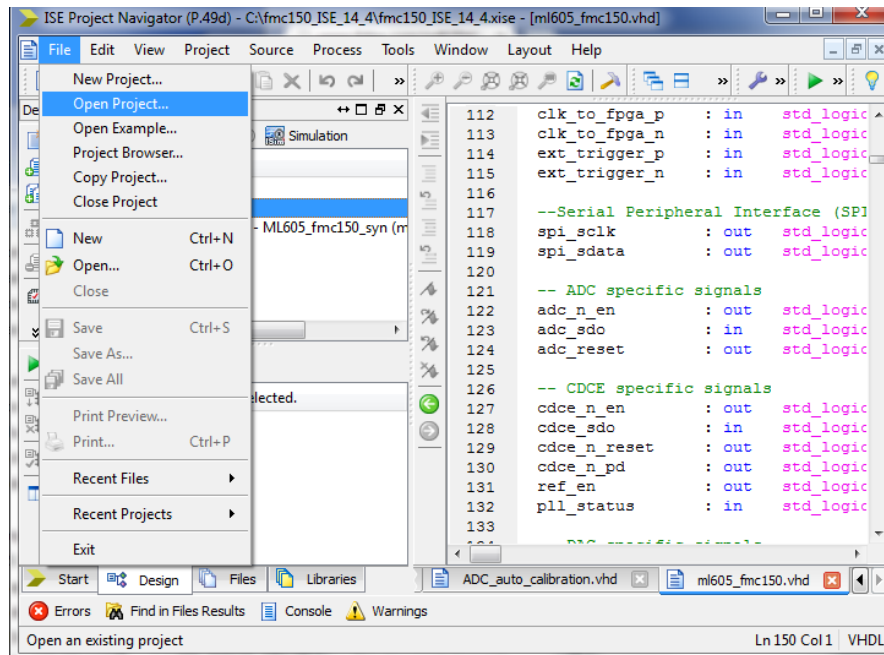

Figure 6 – Opening the project from ISE.
2. Connect one of the outputs from the function generator to an input of the oscilloscope (*Channel one of the scope is connected to the output of the function generator as shown in Figure 6*).